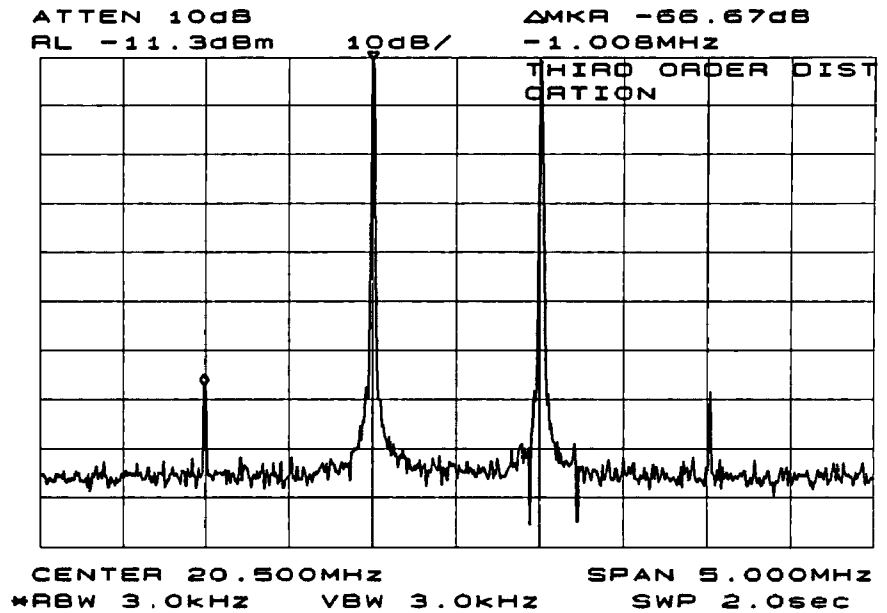

Figure 3-8. Display with Title
6. The functions **SAVE** and **RECALL** allow you to store data for later viewing. The **SCREEN TITLE** function allows you to create a title on the screen and a label for the **RECALL** menu. To create a title, press **DISPLAY**, **MORE** and **SCREEN TITLE**. Next, use the keys from the **SCREEN TITLE** menu and the knob (to choose the letters and spaces) to create a title. The title appears in the upper right corner of the graticule and can be one or two rows of 16 characters each. See Figure 3-8. Press the key **TITLE DONE** when the title is complete.